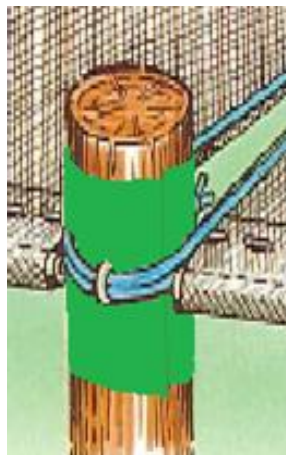

Fig 4: Wrapping of net around the poles
- Where a pole come in contact with the tight horizontal shade net, an extra piece of shade net must be wrapped at a minimum of 2 layers around the pole. (Fig. 4)